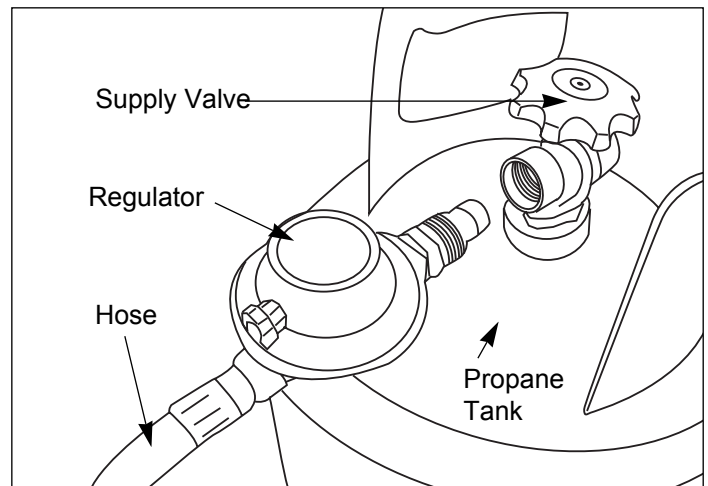

Figure 2. Connecting Hose/Regulator to Tank Valve
- To connect hose and regulator assembly, rotate fitting on hose/regulator counterclockwise into threads on tank valve (see Figure 2). Be sure to tighten firmly. Important: Be sure to position the regulator so that the regulator is horizontal, also as shown in Figure 2.